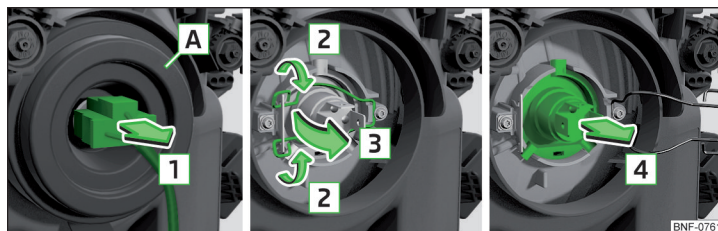

Fig. 142 Removing bulbs for low and main beam
- Remove the connector from the bulb in the direction of arrow 1 » Fig. 142.
- Press the safety catch in the direction of the headlamp and then unhook in the direction of arrow 2 » Fig. 142.